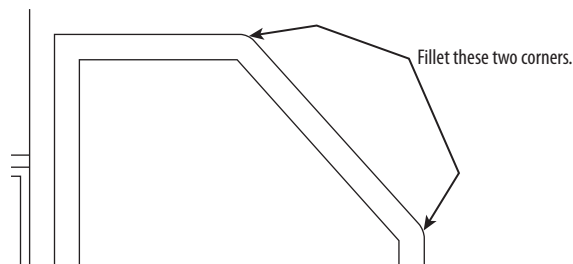

FIGURE 5.72: Fillet the two corners that extend into the cabin.
9. Start the **FILLET** command, and set the Radius value to 3" (76).
10. Then fillet the two outside corners that project into the cabin (see Figure 5.72).